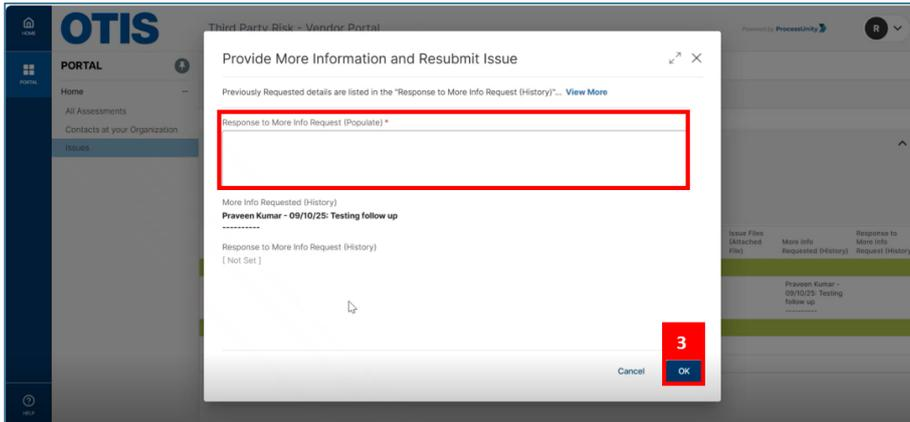

Figure 32
3. Supplier provides response to requested information and clicks **OK** to resubmit the issue (Refer figure 32). After you click OK, your feedback will automatically be e sent to Otis.